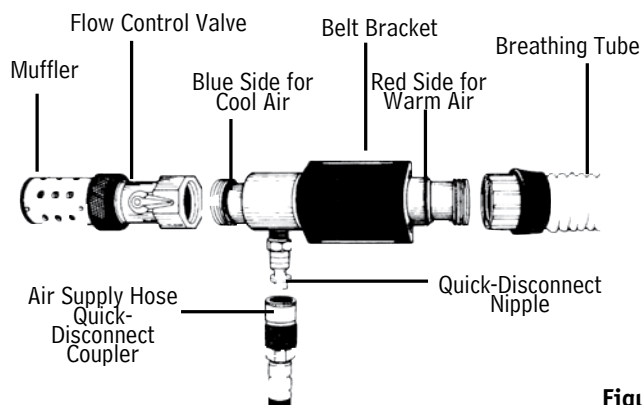

Figure 1
- Screw the flow control valve and muffler onto the blue side of the HC2400 Tube (**Figure 1**). Tighten both connections firmly.
- Screw the nylon hose connector on the end of the breathing tube onto the **BLUE** side of the HC2400 Tube (**Figure 1**). Tighten firmly.
- Turn flow control valve to adjust the flow and temperature of incoming air (**Figure 1**).